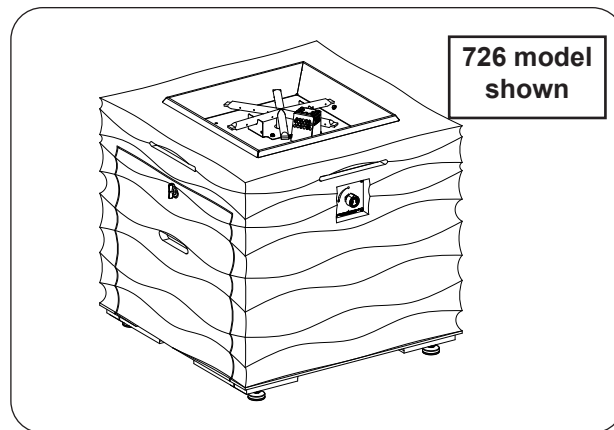

Fig. 25-1 Place unit
1. **Carefully** place the unit in an appropriate location (see Fig. 25-1, and refer back to the LOCATION section if needed).